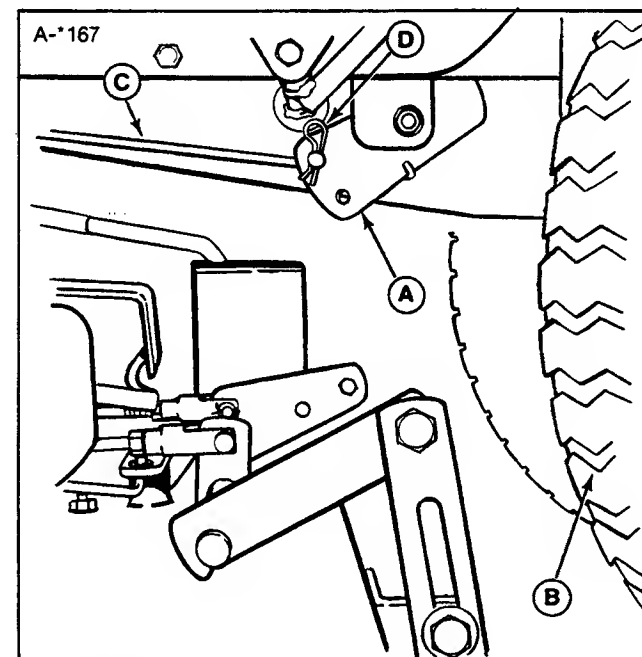

Figure 6. PTO Pulley Rod
9. Attach the PTO rod (C, figure 6) to the tractor PTO lever (A) in hole marked "MOW" with the spring clip provided (D).